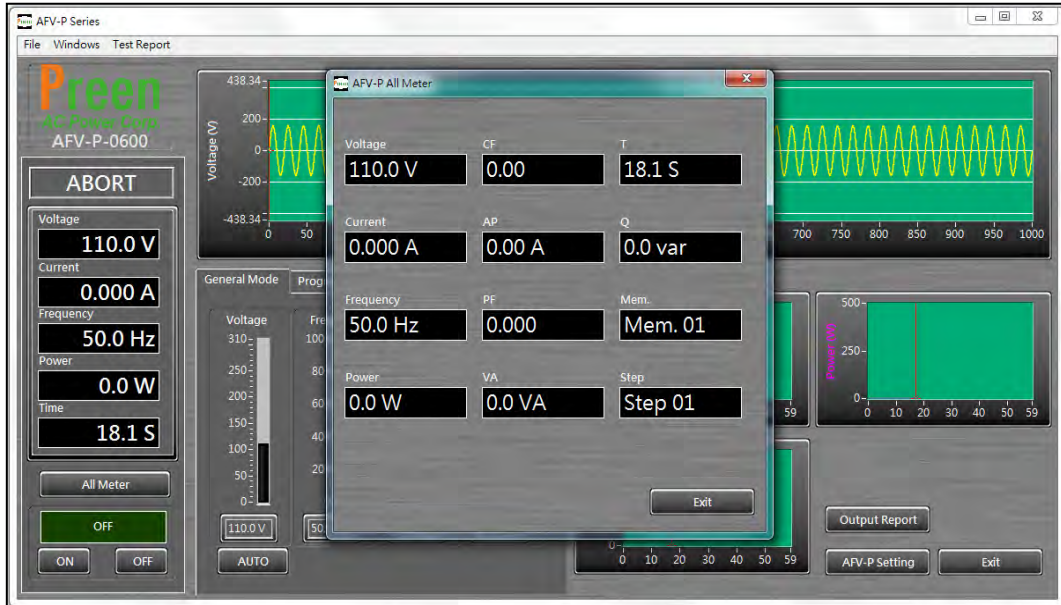

Figure 7.4 Show the measurement readings of the product output
- 12) Click to show the measurement readings of the product output (see Figure 7.4).